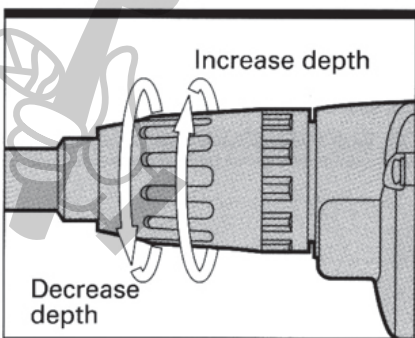

Fig 5
4. Depth adjustment (see fig5)